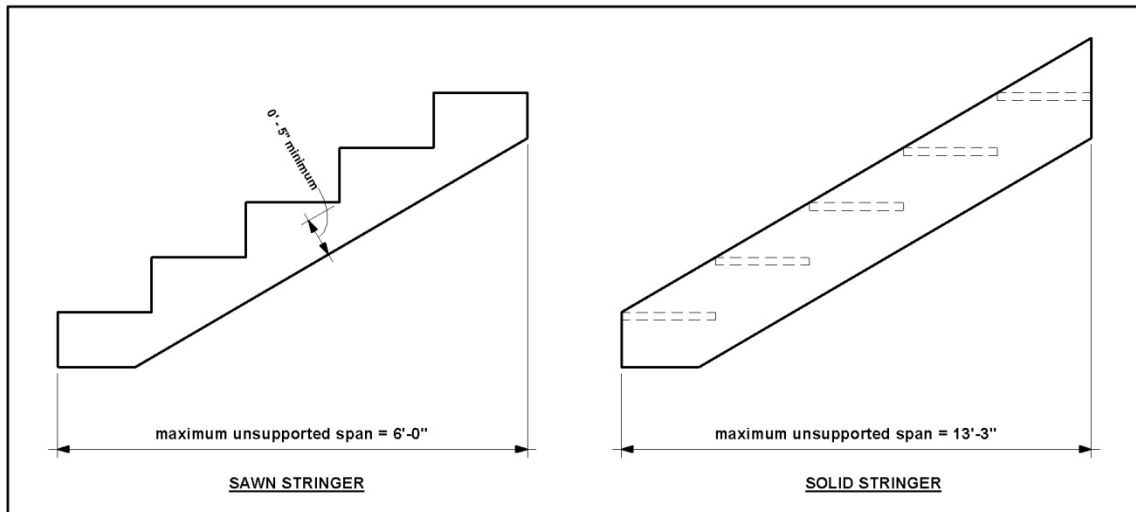

FIGURE 33: STAIR STRINGER REQUIREMENTS
*Revise FIGURE 33: 'STAIR STRINGER REQUIREMENTS' on Sheet 17 to read as follows: